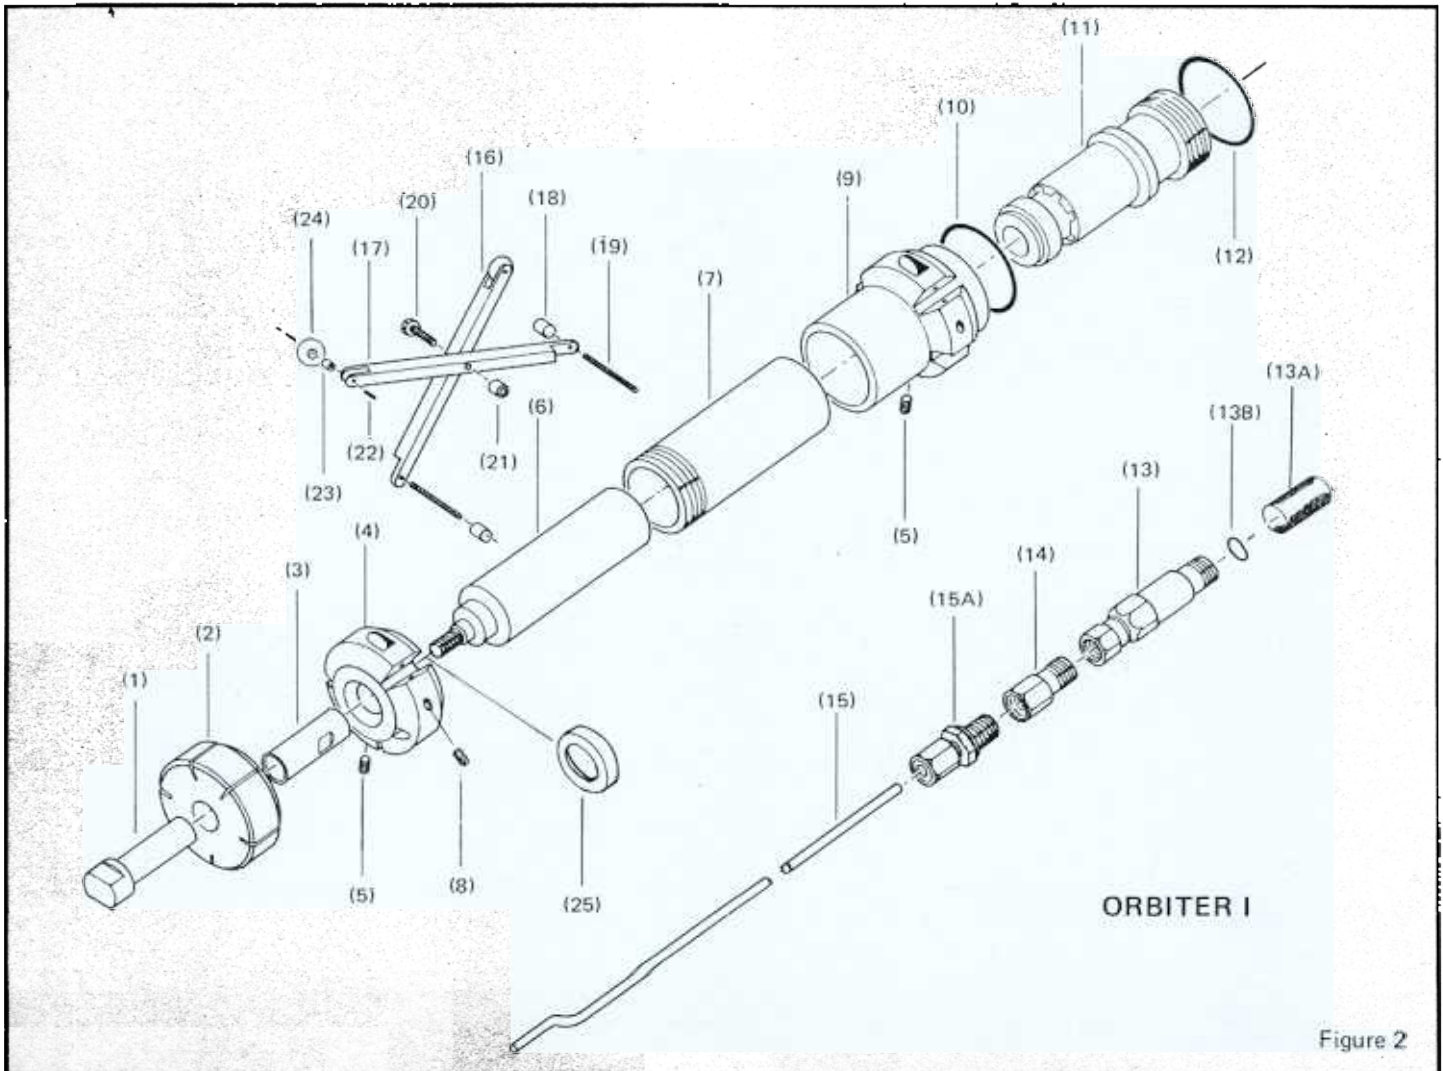

Figure 2
4.2 Remove strainer housing (Figure 2, Item 13 and Figure 4, Item 44), disassemble and clean strainer with solvent. Reassemble making sure nylon ring seal is in place. Use pipe thread tape to ensure a good seal when replacing strainer housing. Never allow paint to dry anywhere in the system.
2. Check that location of paint tube (Figure 2, Item 15 or Figure 4, Item 41) is not preventing head rotation.
(See Figure 2.) OBS 93063